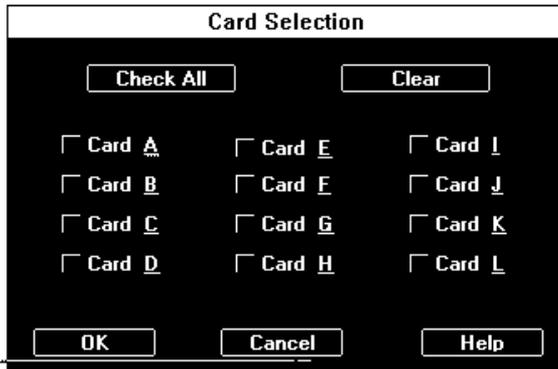

Figure 2-5. Card Selection Window
3. Choose Select Cards from the Com Link menu. The Card Selection window appears (see Figure 2-5).